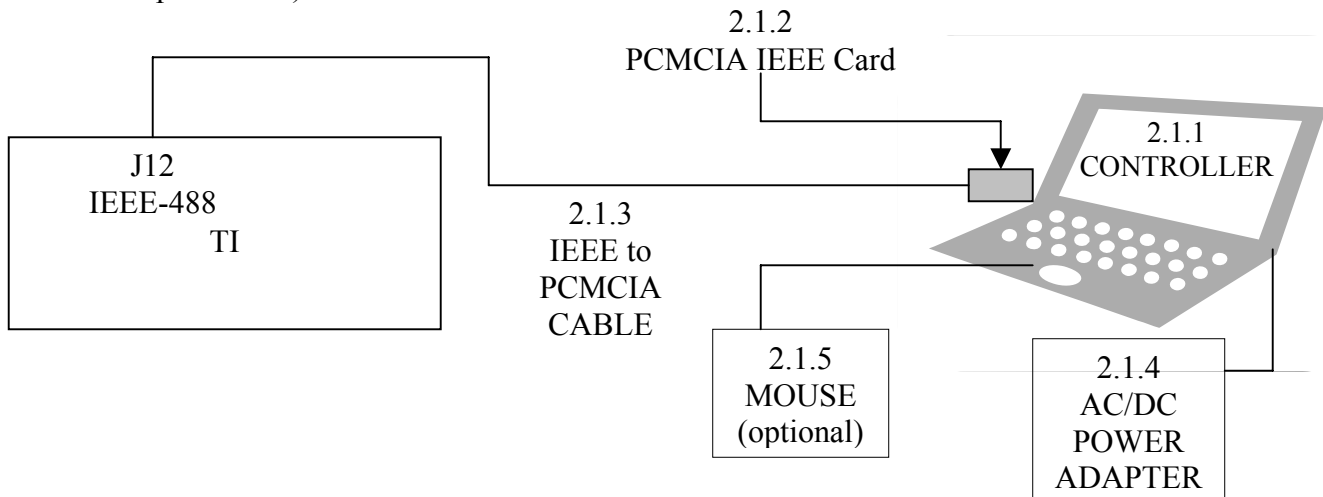

Figure 1 - TI/Controller Interconnection Diagram
- 3.4.2 Connect the equipment as shown in Figure 1. (Leave this configuration connected for the rest of the procedure.)